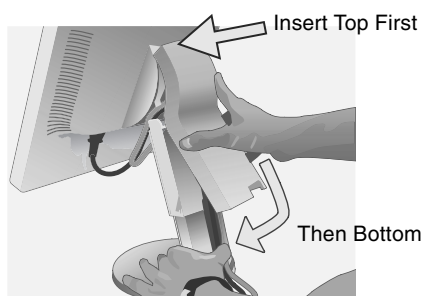

**Figure C.3**
6. Place DVI cable and power cable into the specific hooks indicated in **Figure C.3**.